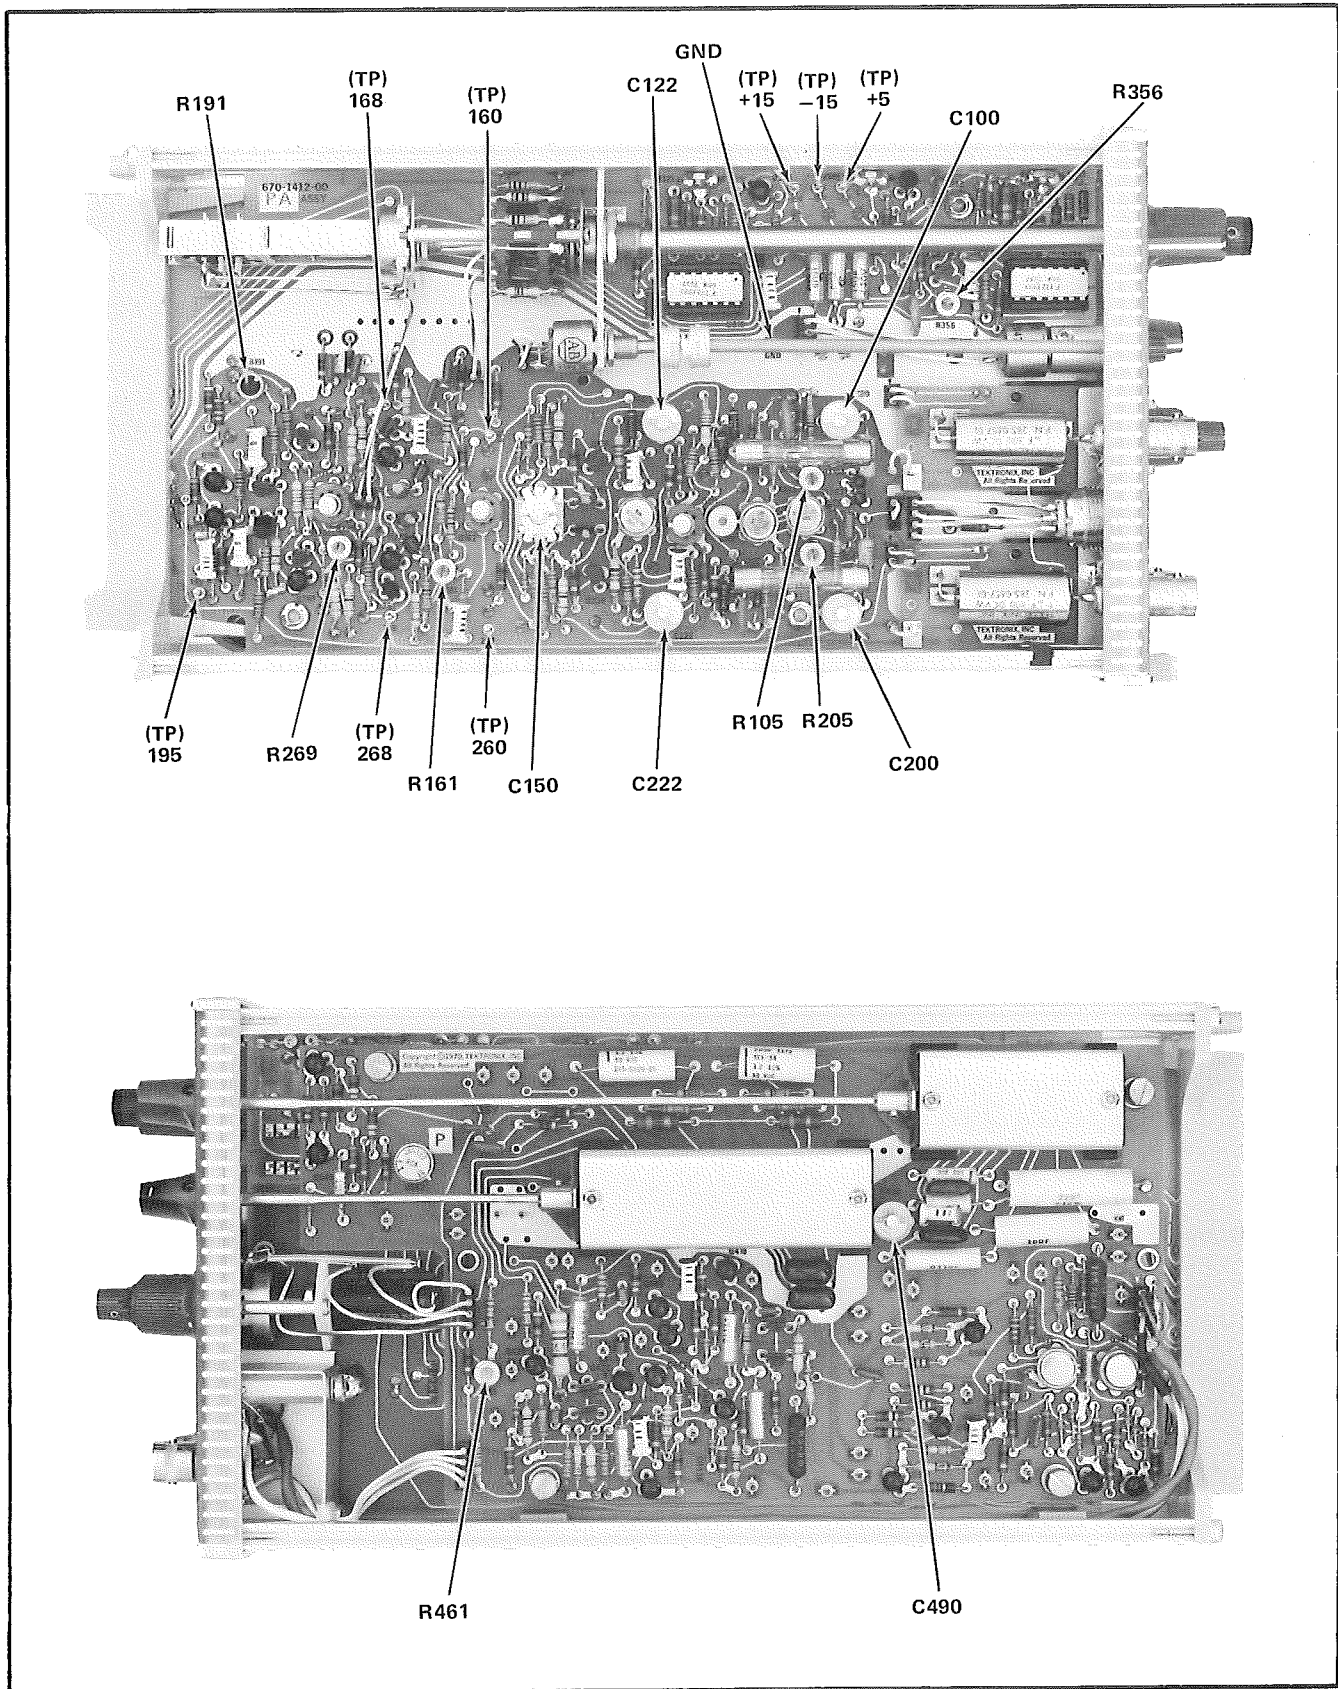

Fig. 5-6. Location of controls and Test Points.
a. Connect the test scope differential comparator, set to measure -15 volts (within 100 mV), between the -15-volt Test Point and GND. See Fig. 5-6 for location of controls and test points.